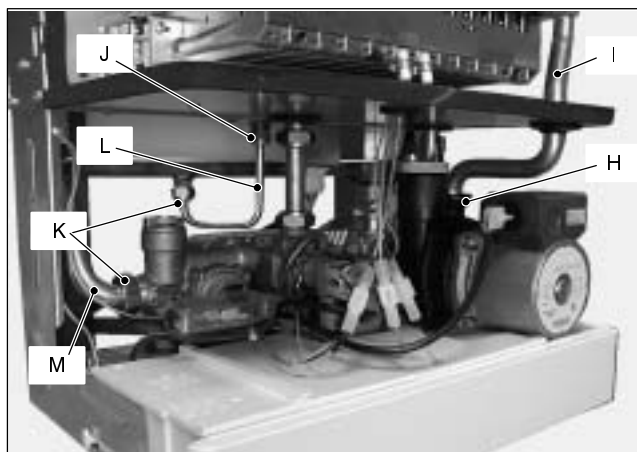

Fig. 12
- 5 Remove the fork **H** (Fig. 12), lift the pipe **I** and rotate it right then move it downwards freeing it from the heat exchanger connection.